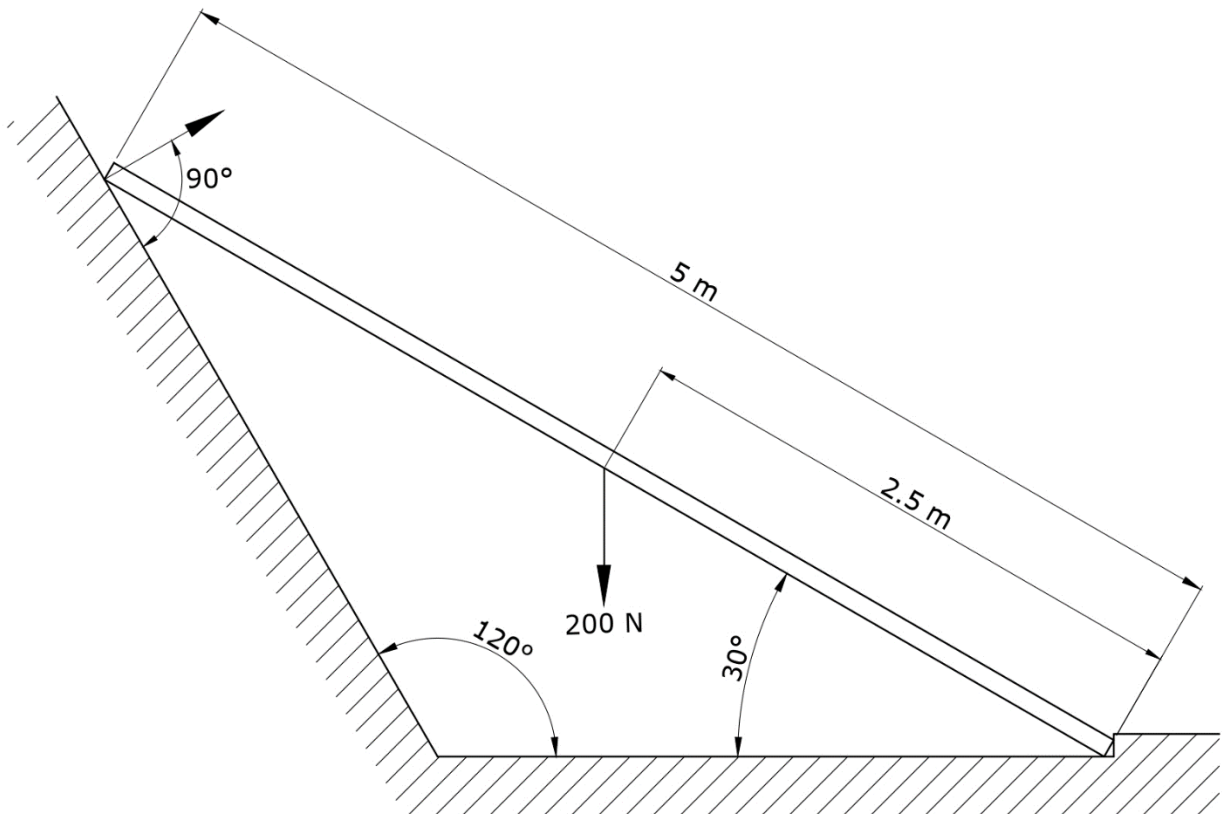

Figure 6b
- a) Draw, the space diagram shown in Figure 6b to a scale of 60 mm = 1 m. (3)
- b) Draw a small sketch showing how the three forces meet at point O (point of concurrency). (2)
- c) Using a scale of 10 mm = 10 N, construct a vector diagram of the three concurrent forces. (4)
- i. the Reaction at the top of the ladder; (2)
- ii. the Resultant Reaction at the bottom end of the ladder. (2)